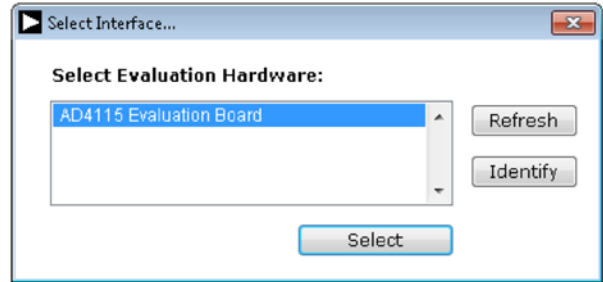
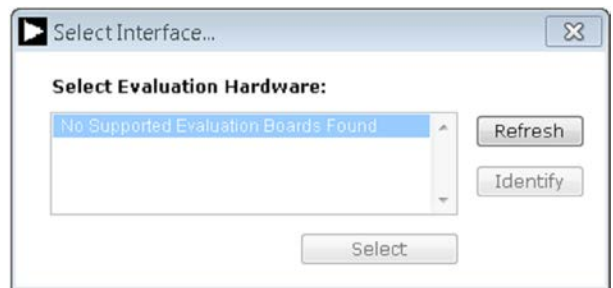

Figure 13. **AD4115** Evaluation Board Selection
Figure 14. Evaluation Board Selection, No Board Connected
1. From the **Start** menu, click **Programs > Analog Devices > AD411x Eval+ > AD411x Eval+.exe**. The dialog box shown in Figure 13 appears. Select **AD4115 Evaluation Board** and the main window of the software shown in Figure 16 appears.
2. If the EVAL-AD4115SDZ is not connected to the USB port via the **SDP** when the software is launched, the software displays the dialog box shown in Figure 14. Connect the EVAL-AD4115SDZ to the USB port of the PC, wait a few seconds, then click **Refresh**, and the dialog box shown in Figure 13 then appears.
After selecting **AD4115 Evaluation Board**, shown in Figure 13, the main window of the evaluation software displays, as shown in Figure 16. The **Configuration** tab shows the control buttons and analysis indicators of the **AD411x Eval+** software. The main window of the **AD411x Eval+** software in quick start mode contains four tabs: **Configuration**, **Voltage Waveform**, **Noise Table**, and **Histogram**.